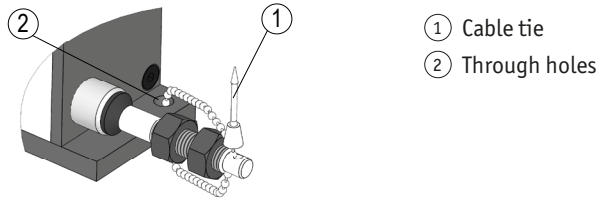
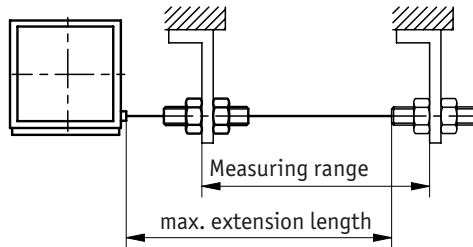

Fig. 2: Spring casing
Fig. 3: Extension length check
- ▶ Do not extend the wire beyond the specified maximum extension length (see Fig. 3).
- ▶ Conduct the wire perpendicular to the wire outlet (see Fig. 3).
### Mounting the wire-actuated encoder (Fig. 2, Fig. 3):
3. After mounting, check that the maximum extension length complies with the application (Fig. 3). The wire end piece / wire must be pulled out up to the planned fixation point. Wire torsion should be avoided.